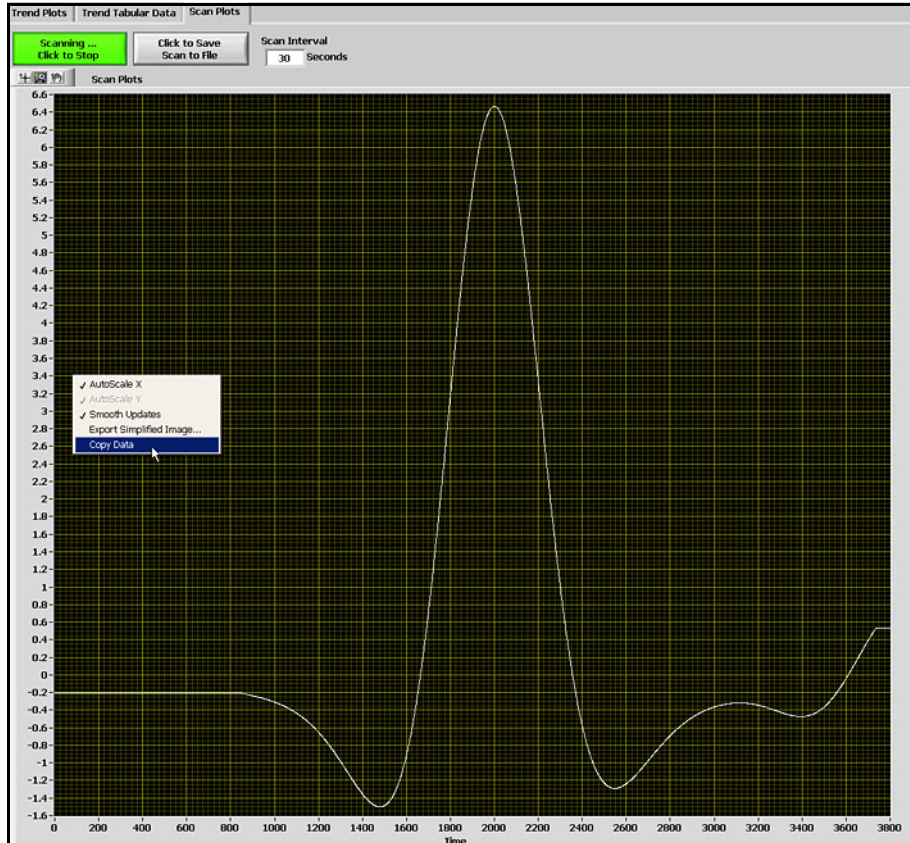
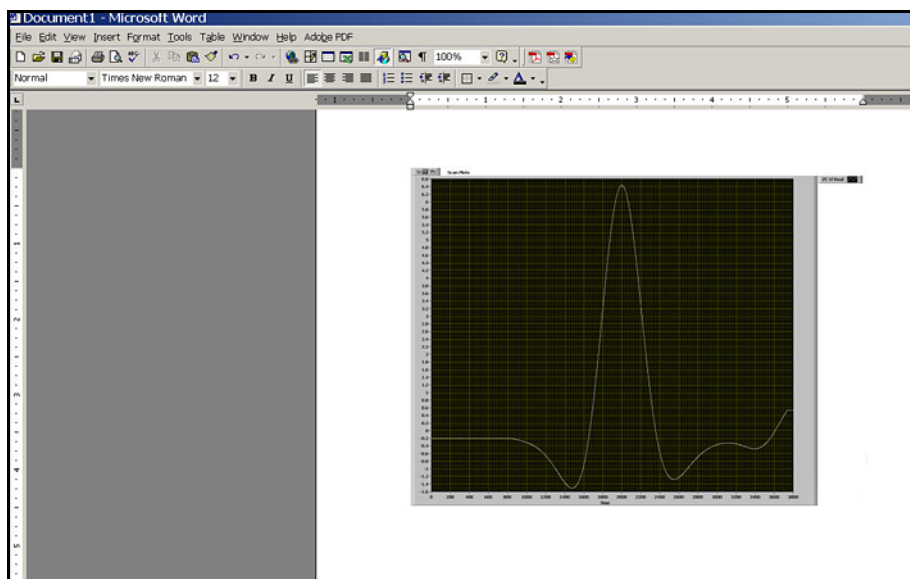

Figure 46: Copying a Trend Plot
Figure 47: Pasting a Trend Plot
4. Copying and Pasting a Trend Plot can be done from **AuroraView** (see *Figure 46* and *Figure 47* below) One way to do this quickly is to simply right click over the data area and choose Copy. In another application, like Microsoft Word, simply paste.